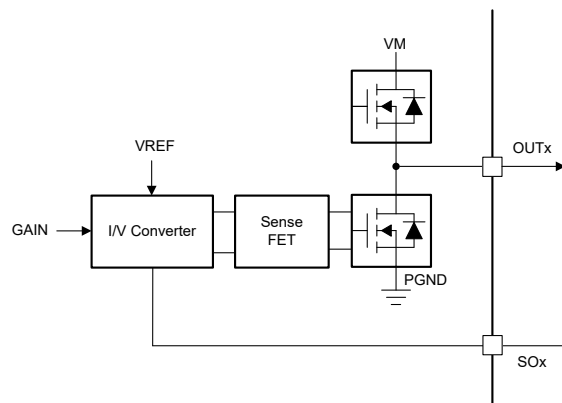

Figure 8-19. Integrated Current Sense Amplifier
Figure 8-19 shows the internal architecture of the current sense amplifiers. The current sense is implemented with a sense FET on each low-side FET of the DRV8317 device. This current information is converted in to a voltage based on the CSAREF pin (VREF) input and the CSA gain setting; this voltage is available on the SOx pin. The CSA output voltage can be calculated using Equation 2
$$SOx = V_{REF}/2 + (G_{CSA} * I_{OUTx}), \text{ wherein } I_{OUTx} \text{ is considered positive in the direction shown in Figure 8-19.} \quad (2)$$